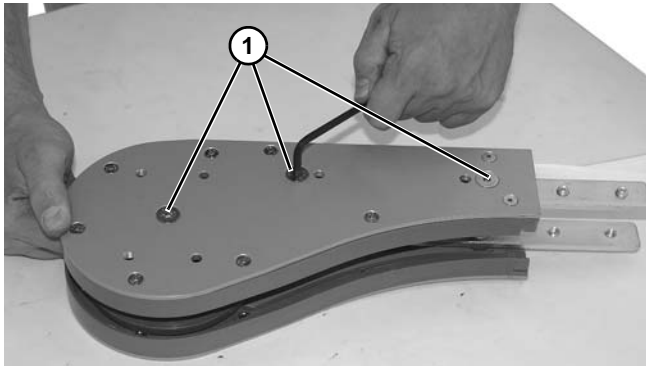

Figure 106
2. Remove three flat head screws (Figure 106, item 1).